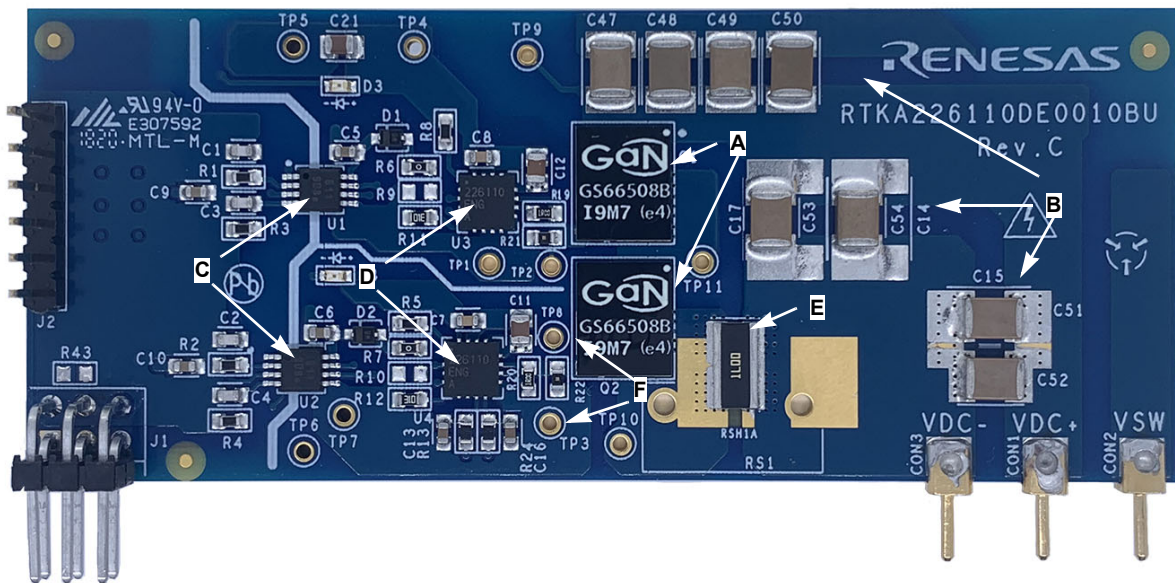

Figure 10. RTKA226110DE0010BU Top Side
- The board provides an optional current shunt position E (Figure 10) between the source of Q2 and power ground return, allowing the drain current measurement for switching characterization test such as Eon/Eoff measurement.